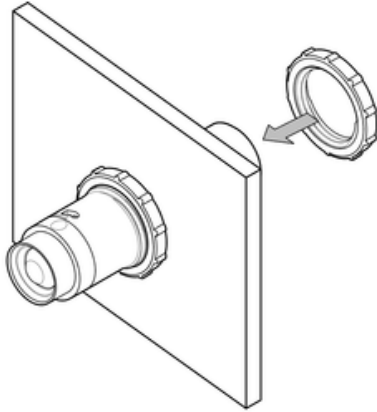

Fig. 8
4. Finally, thread the other mounting nut to fix the Device (Fig. 8).